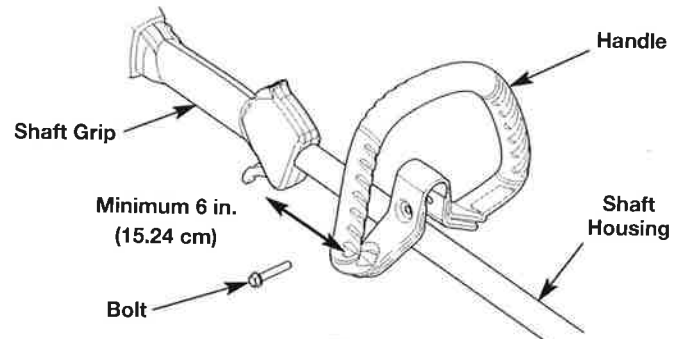

Fig. 2
1. Push the handle down onto the shaft housing (Fig. 2). The bolt hole in the handle should be to the right.
2. Insert the bolt into the bolt hole and push it through (Fig. 2). Tighten the bolt with a 3/8" socket, but do not tighten the bolt completely.
3. While holding the unit in the operating position (Fig. 13), move the handle to the location that provides the best grip. Place it a minimum of 6 inches (15.24 cm) from the end of the shaft grip (Fig. 2).
1. Loosen the bolt with a 3/8" socket (Fig. 2).
2. While holding the unit in the operating position (Fig. 13), move the handle to the location that provides the best grip. Place it a minimum of 6 inches (15.24 cm) from the end of the shaft grip (Fig. 2).